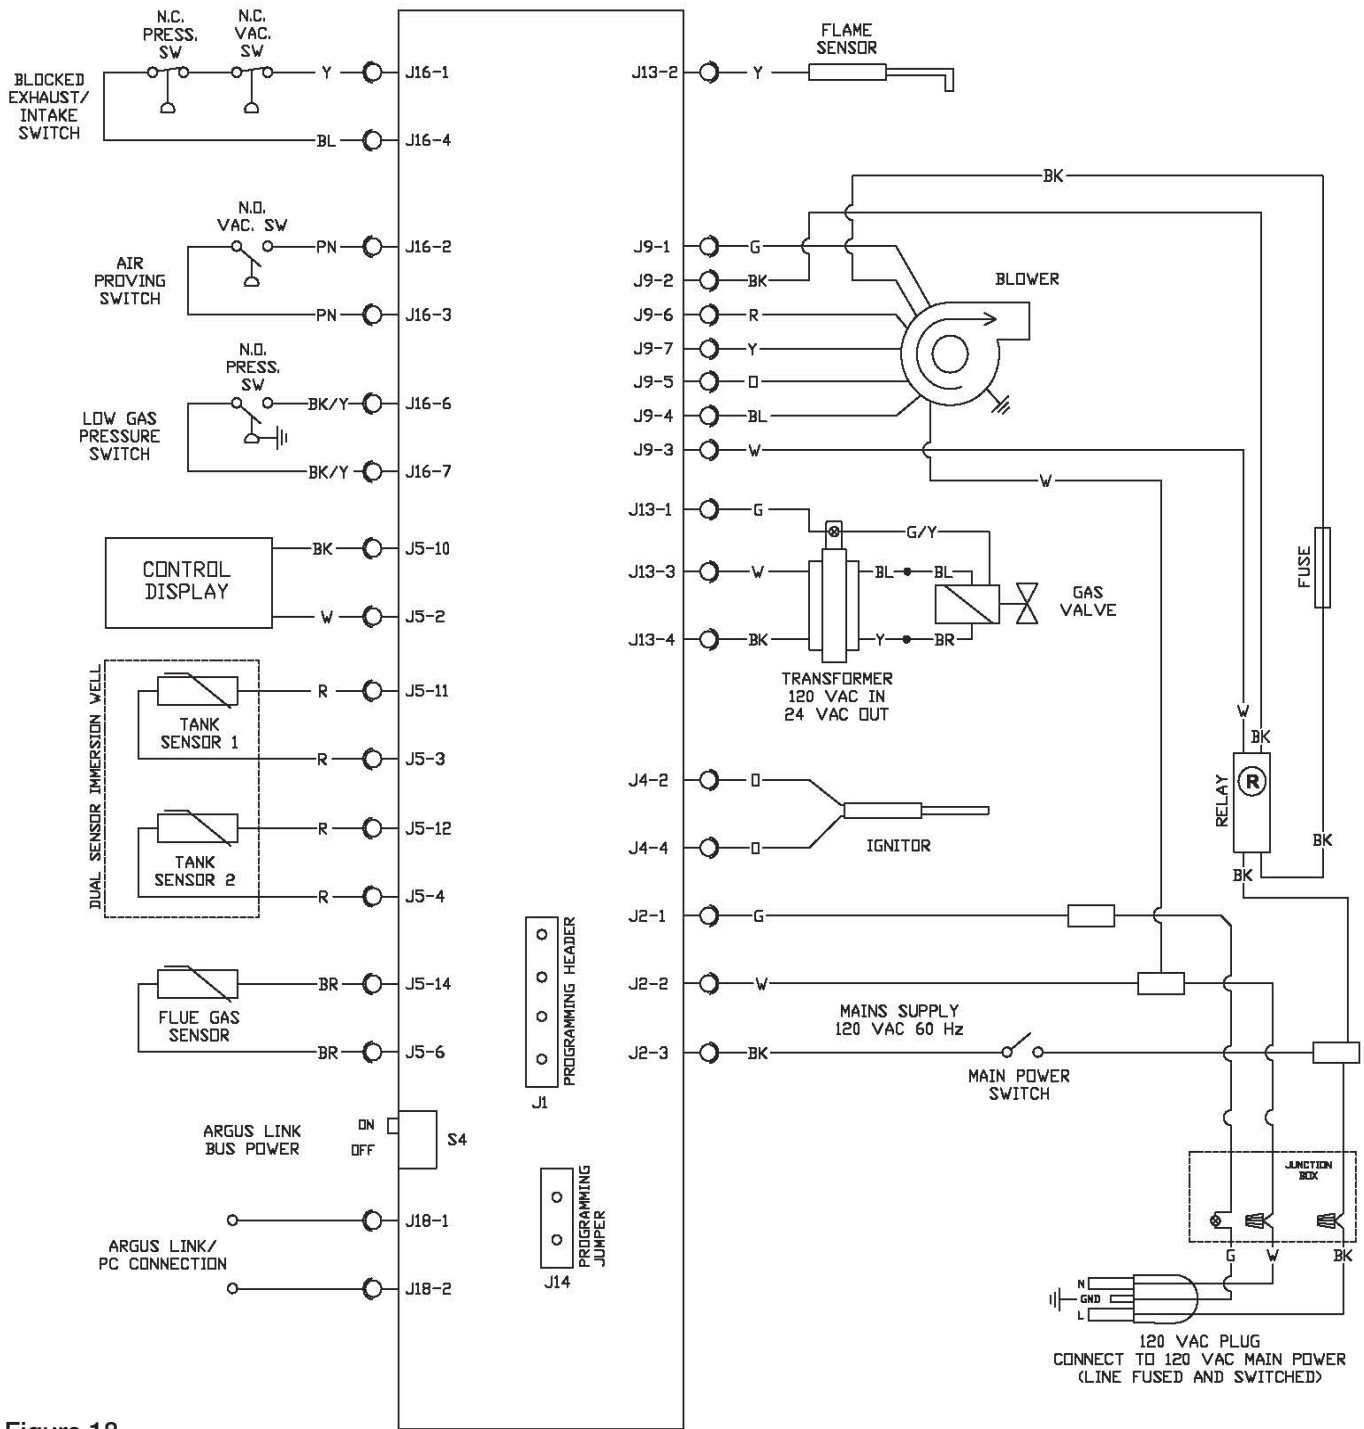

Figure 18
**Wiring** — A polarized 120V 50/60 Hz power supply, with suitable disconnect means, must be connected to the black and white leads provided. The maximum current draw by these models are 5 Amps. The water heater, when installed, must be electrically grounded in accordance with local codes, or, in the absence of local codes, with the National Electrical Code, ANSI/NFPA 70 in the United States; or CSA C22.1 Electrical Code, in Canada. Improper grounding may result in abnormal operation of the unit. Refer to Figure 18 in this manual for water heater internal wiring diagrams.